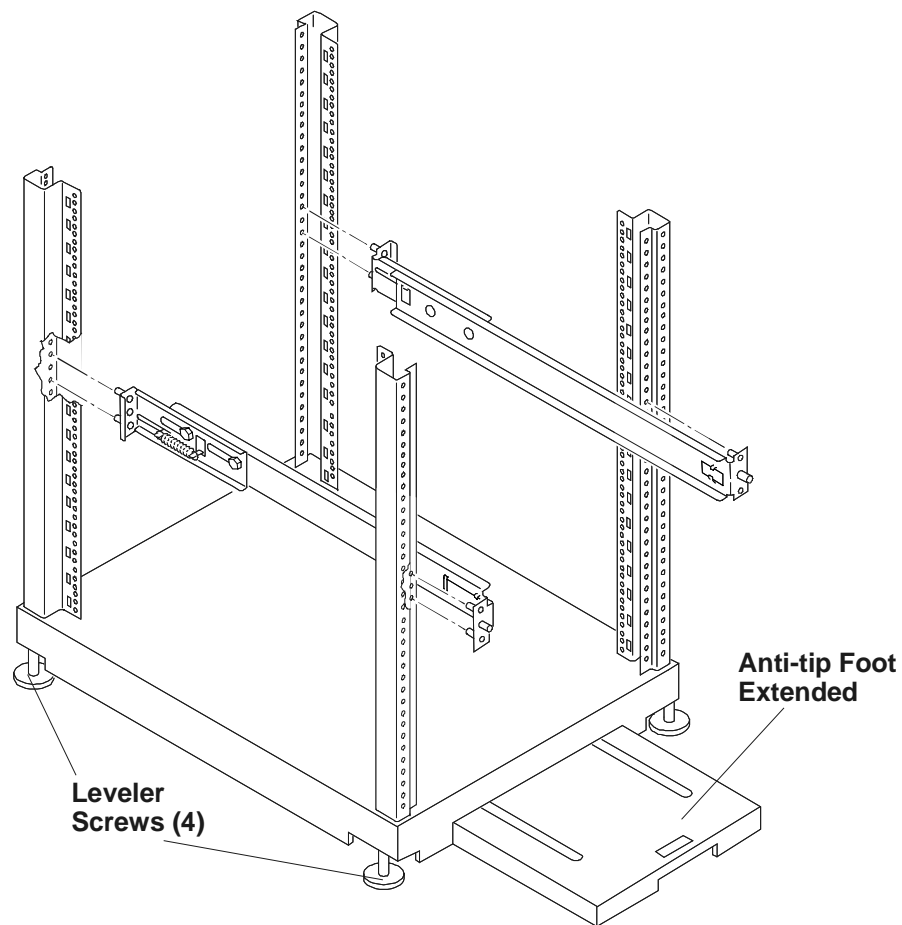

Figure 8-4. Mounting Outer-Rails to Columns
See Figure 8-4 for the anti-tip foot location.
2. Lower the leveler screws on the rack's lower four corners to make firm contact with the floor. See Figure 8-4.
3. Align the left outer-rail to the left front and rear columns as shown in Figure 8-4.
To prevent the rack from rolling while you mount the HP Netserver, ensure the leveler screws on the rack's lower four corners are in firm contact with the floor. See Figure 8-4.